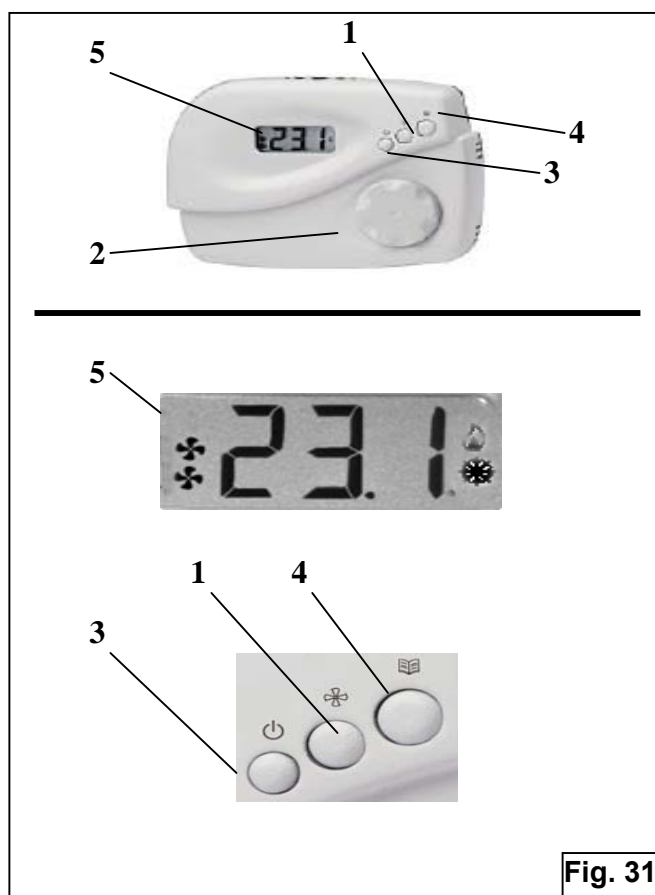

Fig. 31
### 6.4 Control panel (Fig. 31)
- Fan speed key (**Fig. 31 ref. 1**).
- Thermostat adjuster (**Fig. 31 ref. 2**)
- On/off switch (**Fig. 31 ref. 3**)
- Menu key (**Fig. 31 ref. 4**)
- Display (**Fig. 31 ref. 5**)
To switch the air conditioner on press the on/off key (Fig. 31 ref. 3) and at the same time, the display is active.
**6.4.2 Display Fig. 31 Rif. 5**
The display shows the **Temperature Setting (SET)**. Temperature is set via the thermostat knob (Fig. 31 Ref. 2).
Press the menu key (Fig. 31 Ref. 4) on the display and the ambient temperature (TA) inside the vehicle is displayed for a few seconds.
The display then reverts to the temperature setting. In addition to temperature, the Display (Fig. 31 Ref. 5) also shows the following:
Press the **speed key** Fig. 31 Rif. 1
If one of the three fixed speeds is set the control panel always activates ventilation at that same speed. If, instead, fan speed is set to AUT, the control panel step by step (Fig. 31) automatically selects the most appropriate fan speed in consideration of the temperature setting and the temperature in the vehicle interior.
**6.4.4 Thermostat (Fig. 31 Ref. 2)**
To switch the air conditioner off press the on/off key Fig. 31 Rif. 3
- make sure that the cool air / warm air switch **Fig. 31 Ref. 2** is not in "0" position and that the thermostat is in its all-cool position **Fig. 31 Ref. 3**.
- for the compressor to work, the thermostat **Fig. 31 Ref. 3** must be set at a temperature at least 5 degrees lower than that of the indoor environment of the vehicle and the warm / cool selector must be in cool position.
- make sure that the ON-OFF switch **Fig. 31 Ref. 2** is **not** in "0" position and that the fan speed selector **Fig. 31 Ref. 1** is **not** blocked in an intermediate position.